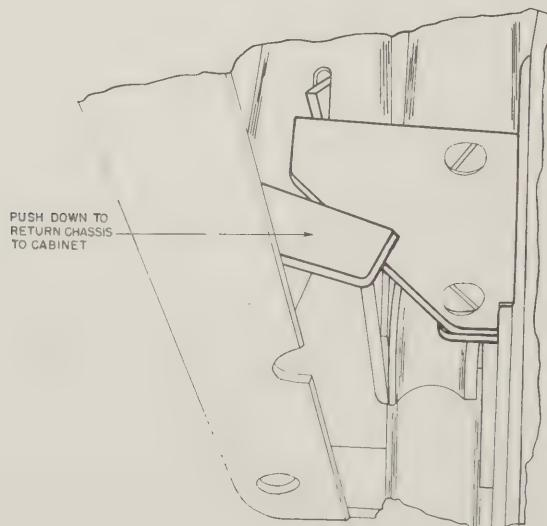

Figure 6-1. Chassis Lock Mechanism
d. To return chassis to cabinet, pull sliders all the way forward. Place rear rollers of chassis on slider. Keeping chassis almost level, push forward until latch plate (left side of chassis) clears cabinet and front rollers are on slider. Release latch lock (left side of cabinet) by pressing downward. The panel can now be pushed forward until it is flush with the cabinet. Tighten the six slotted thumb screws on the front panel. Refer to Figure 6-1 for location of latch plate and latch lock.